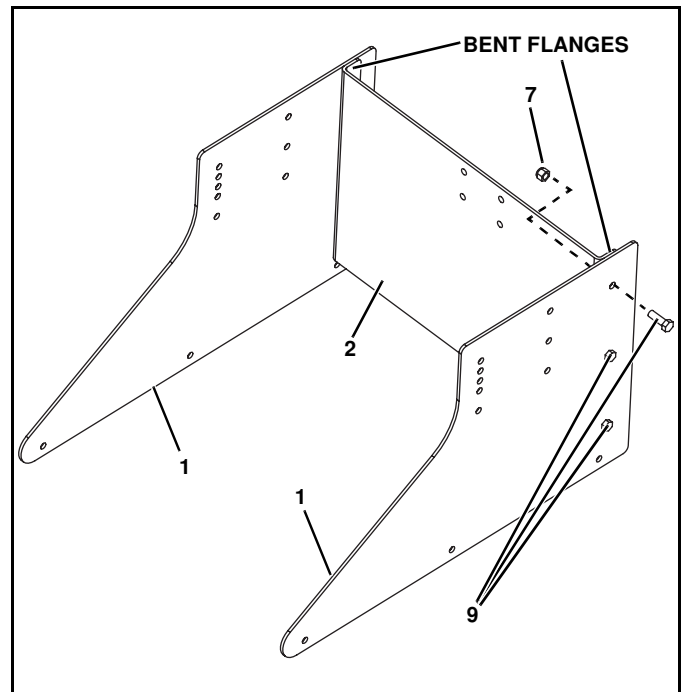

Figure 1
1. Bolt on each stand plate (#1) to stand support bracket (#2): (Item #2 has the two bent flanges facing rearward (See Figure 1.). Place (3) 1/2"-13 x 1-1/2" cap screws (#9) per side pointing inside; retain with 1/2"-13 nylock nuts (#7).